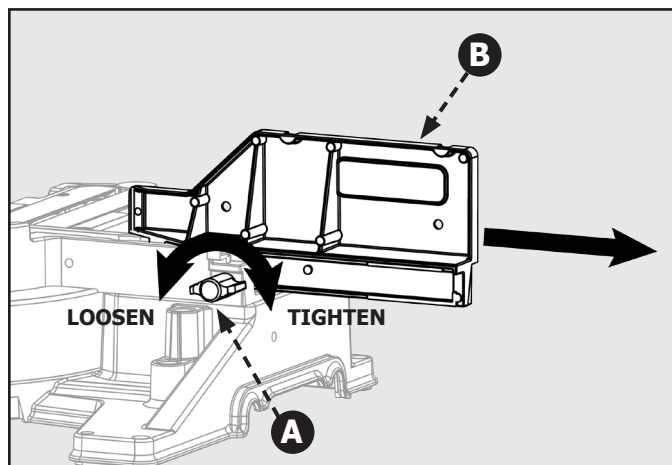

Figure 26
1. Loosen the fence lock knob (A). Slide the upper (adjustable) fence (B) completely out of its track and set to the side. See Figure 26.